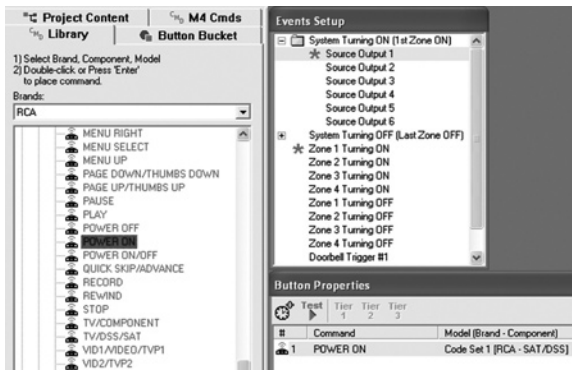

Figure 41 Placing Commands on Source Outputs For System ON
4. Double-click an IR command from the **CMD Library** for a typical source, such as Power ON for a SAT/DSS receiver, placing it on the **Command** list. Refer to Figure 41.